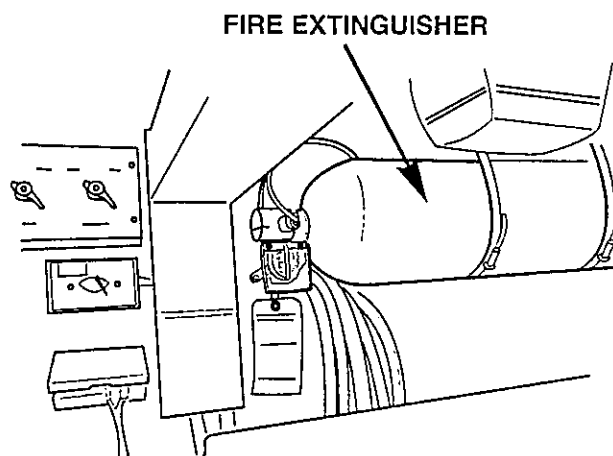

Figure 3-10 Halon Fire Extinguisher
11. See Figure 3-10. Check that the halon fire extinguisher(s) in the front and/or rear of the engine compartment have not been discharged.